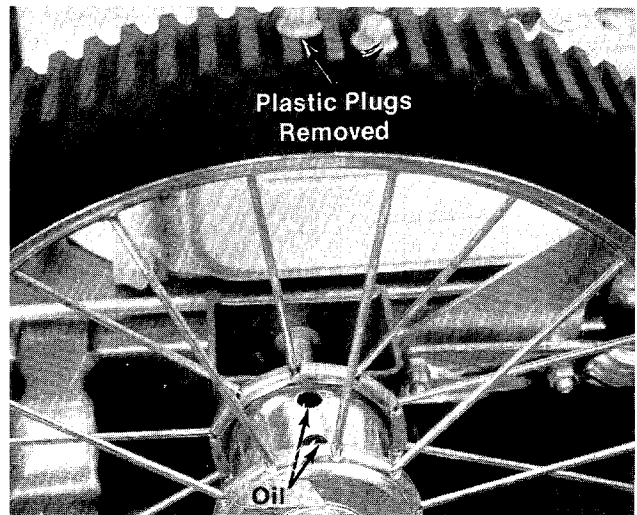

FIGURE 16
**Rear Wheels**—Remove the two plastic plugs on the hub and lubricate with a few drops of engine oil once a season. Replace the oil plugs. (See figure 16.)